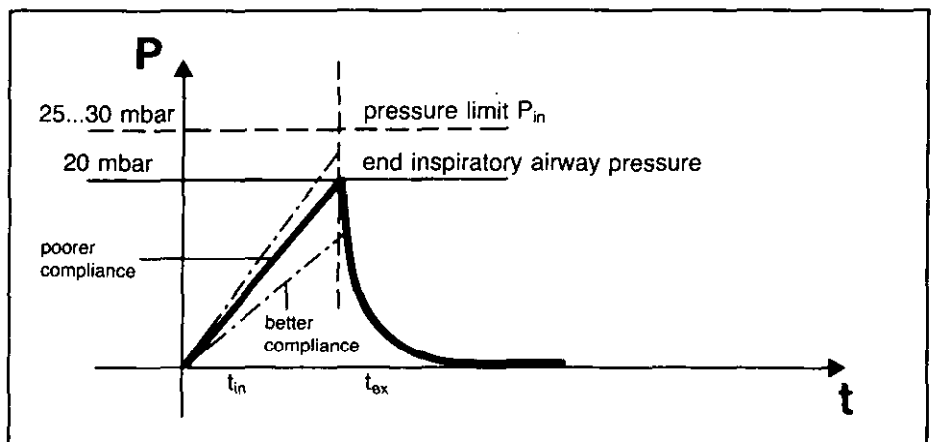

Fig. 6 Setting of the pressure limit P_{in} if changes in compliance of the lungs occur
The setting can be checked by pressing the key 12 "Manual inspiration" (Fig. 6).